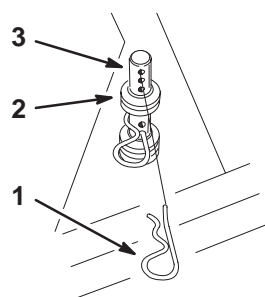

Figure 7
1. On the opposite side of the muffler, install unused washers and hairpin cotter pins into front and rear height-of-cut pins (Fig. 7).